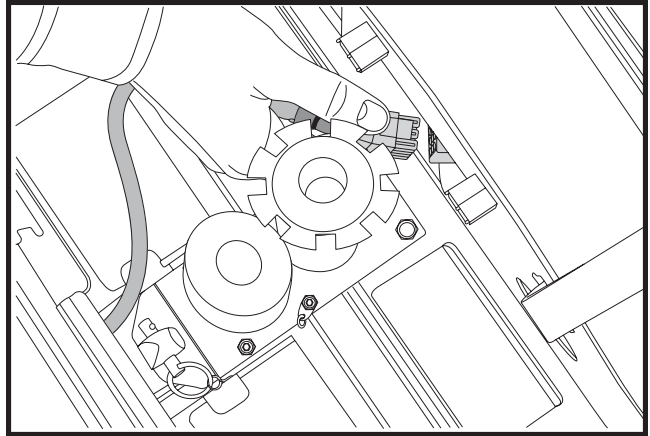

Figure 14. Front-To-Rear Harness
7. Unplug the front-to-rear harness that connects the tiller console to the rear electronics module. See figure 14.